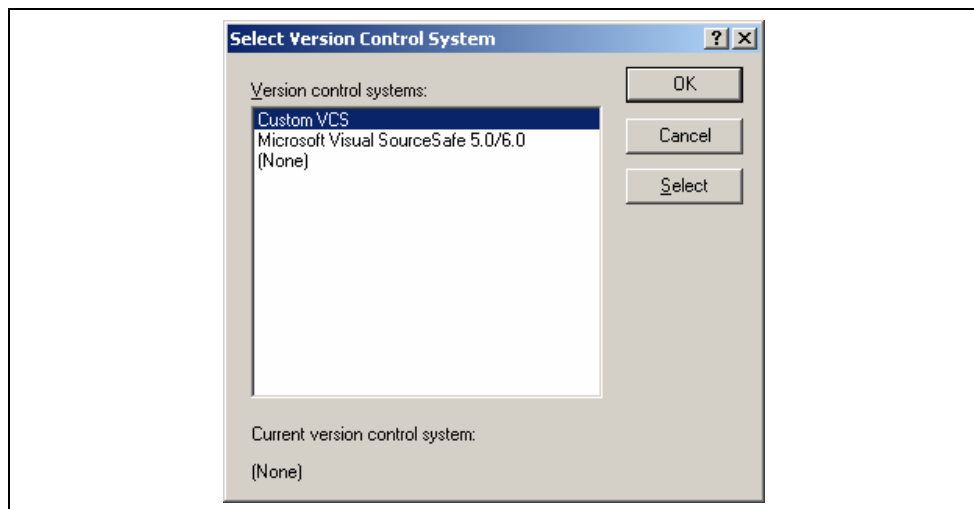

Figure 7.3: Select Version Control System Dialog
1. Select **[Version Control->Select...]**. The dialog shown in figure 7.3 will be displayed. This dialog lists all of the supported version control systems.
Note: Only those version control systems, which have been installed with the HEW, will appear in the “Select Version Control System” dialog (figure 7.3).